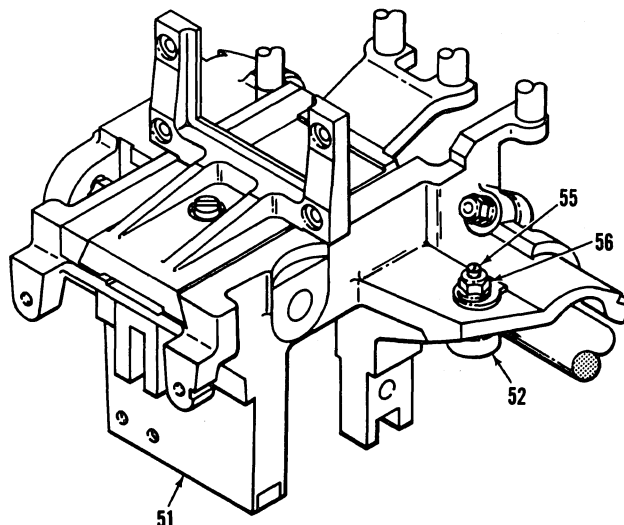

Figure 5-1. CARRIAGE MOVEMENT ADJUSTMENTS
## B. CARRIAGE MOVEMENT AND RETAINERS (AA-100) (FIG. 5-1 AND FIG. 8-1)
9. Loosen lock-nuts (BA-56) on left and right eccentric axles (BA-55). (See Figure 5-1)